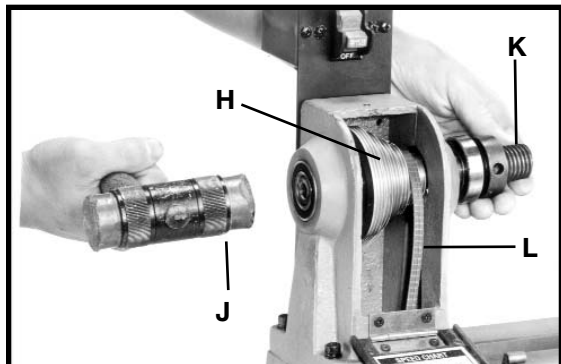
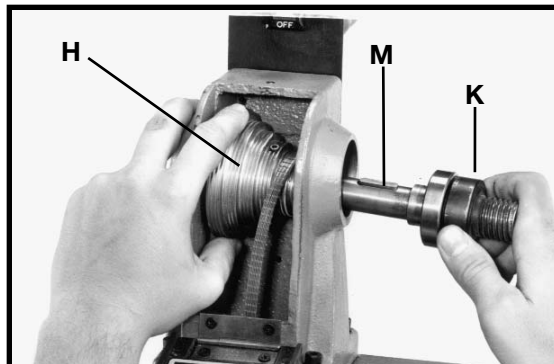

Fig. 29
Fig. 30
6. Use a soft-tipped mallet (J) Fig. 29 to carefully tap the spindle shaft (K) thru the bearing. Tap it far enough to move the spindle shaft to the right to remove the spindle pulley (H), and spindle shaft (K), (Fig. 30).
IMPORTANT: Be careful not to drop the metal key (M) Fig. 30 into the hub of the spindle pulley (H).